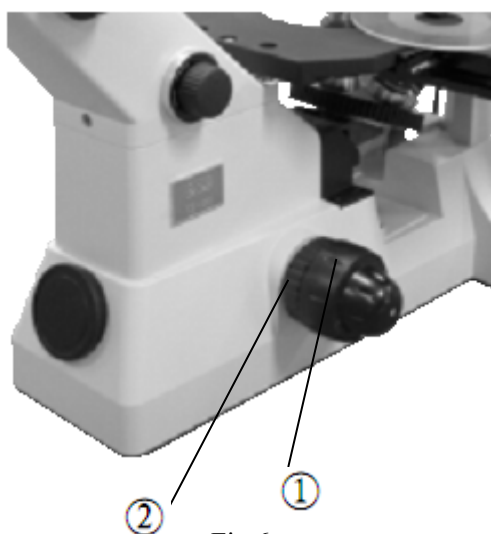

Fig.6
1. Turn the coarse adjustment knob① as Fig.6 shows until the revolving nosepiece is set